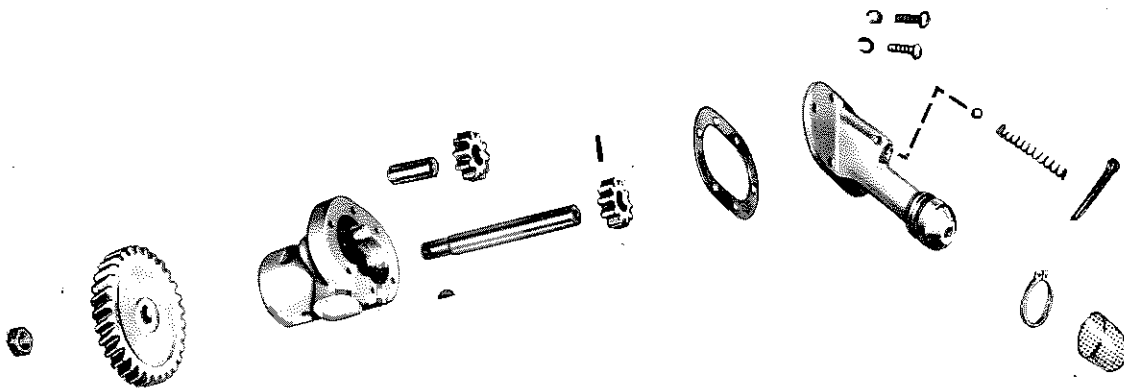

Figure IV-30 Oil Pump Disassembly
A. LUBRICATING OIL PUMP (figure IV-30)